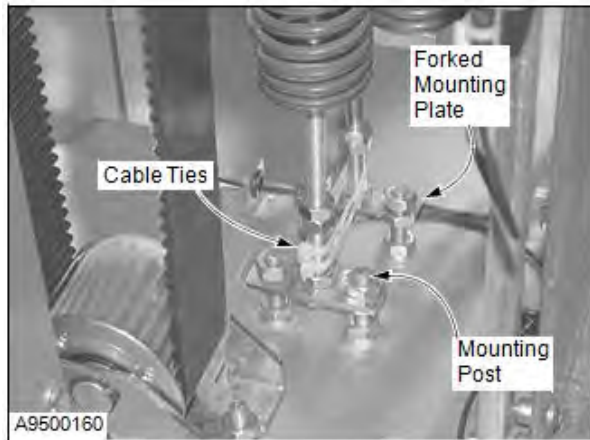

Figure 61
12. Attach the spring pack to the mounting posts on the base plate. Tighten the *lower nuts* against the bottom of the mounting plate to retain the preload setting of the spring pack. (See Figure 61.)